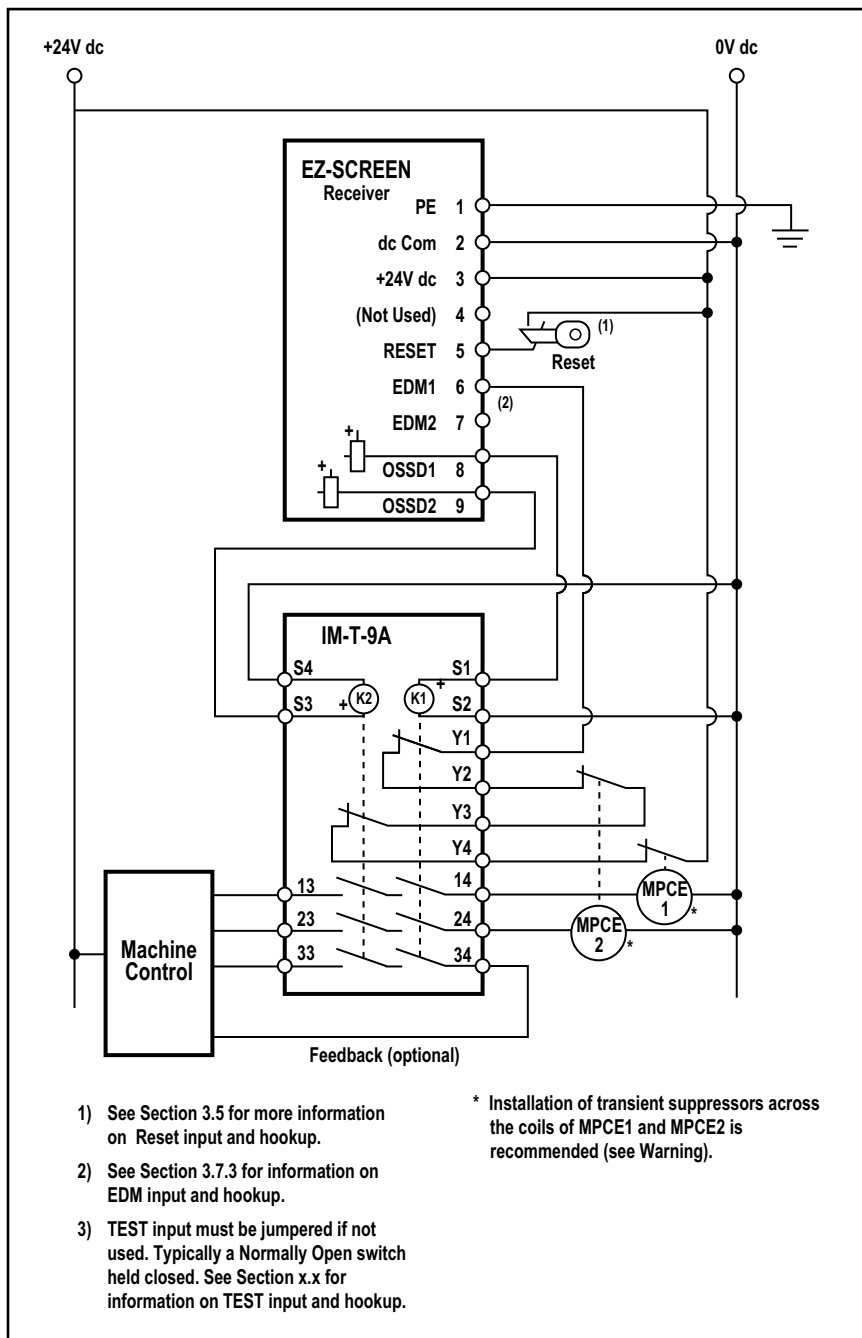

Figure 3-21. EZ-SCREEN receiver generic hookup – interface module (1-channel EDM, key reset)
- **One-channel monitoring** is a series connection of closed monitor contacts that are forced-guided (captive contact) from each device controlled by the EZ-SCREEN System. The monitoring contacts should open within 200 milliseconds of the OSSD outputs turning on (a clear condition) and should close within 200 milliseconds of the OSSD outputs turning off (a blocked condition) or a lockout will occur (see Diagnostics, Section 5.1). Refer to Figure 3-21 for 1-channel EDM hookup. Connect the monitor contacts between +24V dc and EDM1 (terminal 6). Leave EDM2 (terminal 7) open (no connection). Set the configuration DIP switches to 1, per Section 4.1.